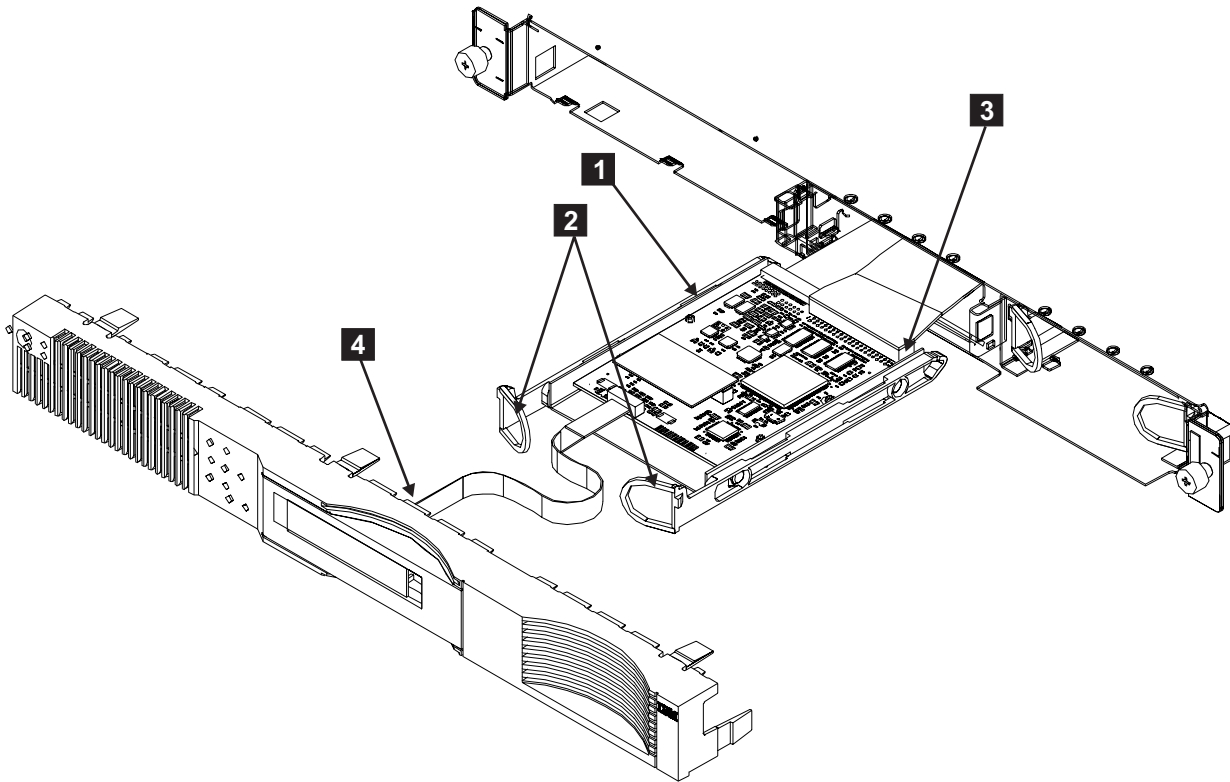

Figure 89. Removing the service controller
1. Refer to Figure 89 on page 148.